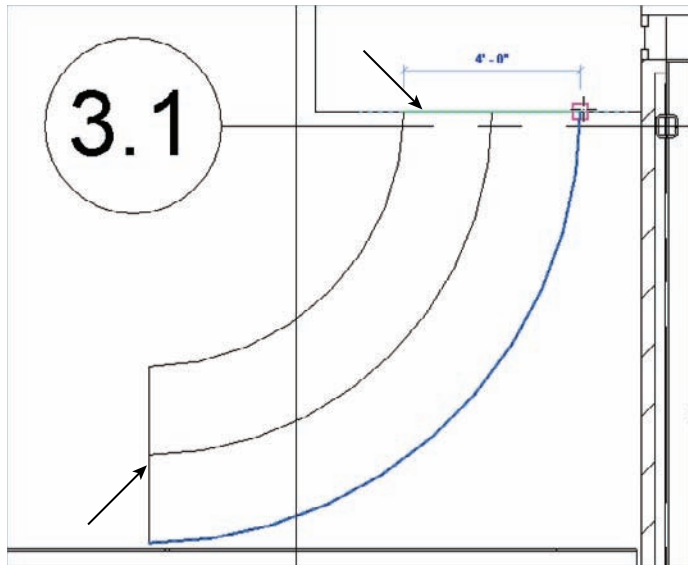

FIGURE 10.39 Adding two straight lines at each end of the arcs
13. Click the Line tool, make sure Offset is set to 0, and then draw a straight line at each end of the arcs, as shown in Figure 10.39.